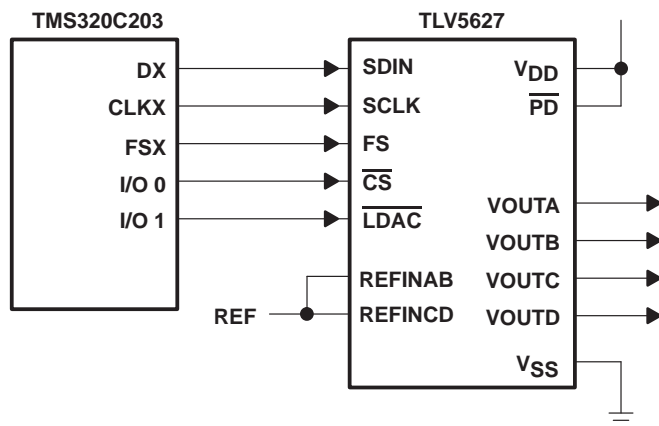

Figure 17. TLV5627 Interfaced with TMS320C203
Figure 17 shows an example of how to connect the TLV5627 to a TMS320C203 DSP. The serial port is configured in burst mode, with FSX generated by the TMS320C203 to provide the frame sync (FS) input to the TLV5627. Data is transmitted on the DX line, with the serial clock input on the CLKX line. The general-purpose input/output port bits IO0 and IO1 are used to generate the chip select (\overline{CS}) and DAC latch update (\overline{LDAC}) inputs to the TLV5627. The active low power down (\overline{PD}) is pulled high all the time to ensure the DACs are enabled.